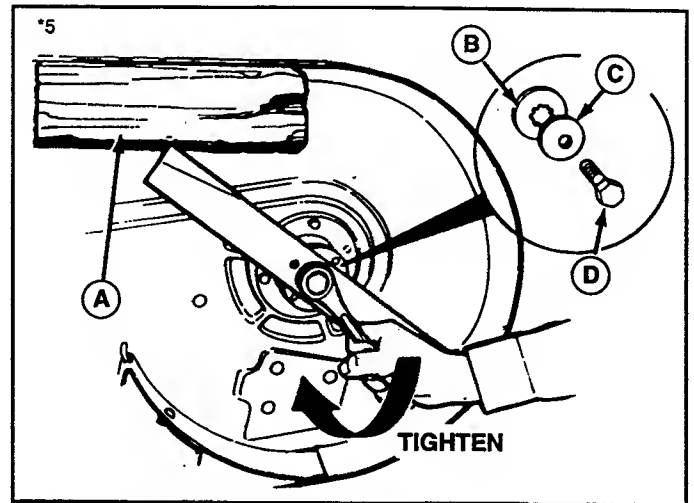

Figure 22. Installing The Blade
6. Reinstall each blade with the tabs pointing up toward deck as shown in figure 22. Secure with a capscrew (D), cup washer (C) and spline washer (B). Use a wooden block to prevent blade rotation and torque capscrews to 50-70 ft.lbs. (67-95 N.m.).